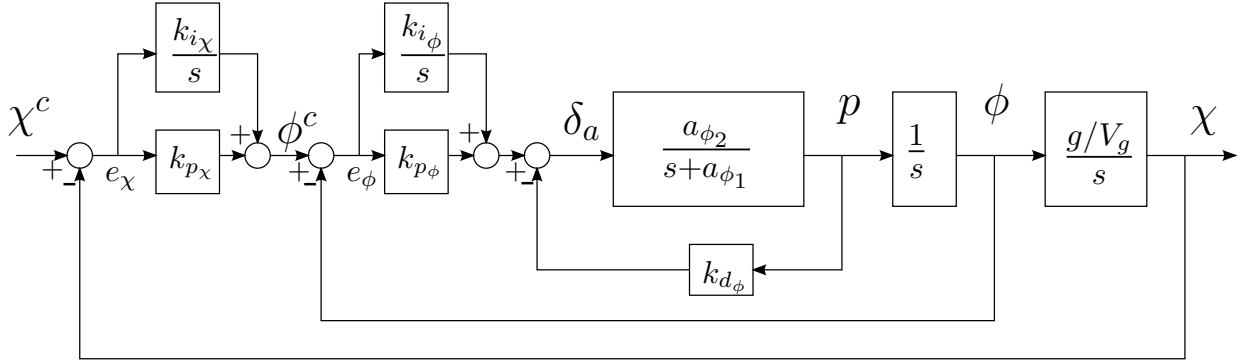

Figure 1: Successive loop closure for autopilot design.
Figure 1 from Chapter 6 in Beard and McLain (2012) shows the block diagram for a lateral autopilot using successive loop closure. This represents an autopilot for course hold using only aileron δ_a as control input. Moreover, the rudder δ_r is not used for feedback, and you may ignore the actuators dynamics $H_a(s)$ (this simplifies the state-space model).
1. Find numerical values for a_{ϕ_1} and a_{ϕ_2} based on the state-space model (1)–(2).
2. Find numerical values for the five gains in Figure 1 associated with the lateral autopilot and present the open-loop and closed-loop transfer functions from χ^c and χ in a Bode plot.
3. Present simulation results for course hold and course changing maneuvers: for course hold choose a fixed set-point, whereas for course change choose a series of steps (you may choose yourself the desired values). The F16 aircraft model must be the complete state-space model (1)–(2), including the actuators dynamics, and the autopilot must use the decoupled model given by a_{ϕ_1} and a_{ϕ_2} (in other words, use Fig. 1 but replace the block for p/δ_a with the complete state-space model).